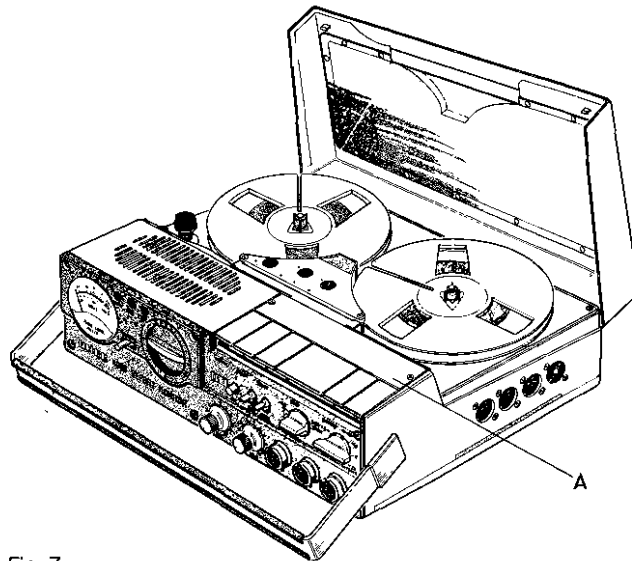

Fig. 7
For cleaning, remove the cover (A) located directly behind the control keys (see Fig. 7). The pressure roller (B), tape guides (C), (D), (E) and tape heads (F), (G), (H) will then be easily accessible for cleaning with UHER Special Cleaning Kit Z 172. The capstan (J), too, should be cleaned to remove any deposits of dust or tape coating that may have accumulated on it.